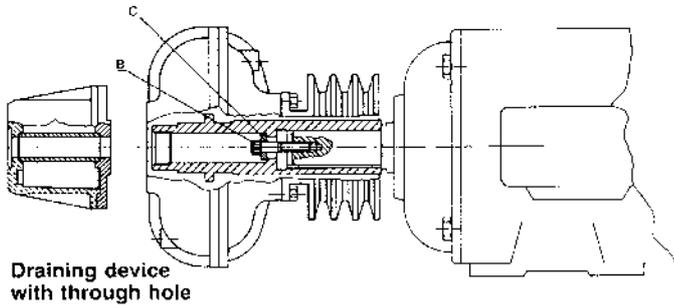

Fig. 1
- Secure the coupling on the shaft with the fixing screw B and washer C (fig. 1).
- Proceed as per models P or L. The coupling is fixed on the shaft with the fixing screw through the hole in the device R (fig. 1).